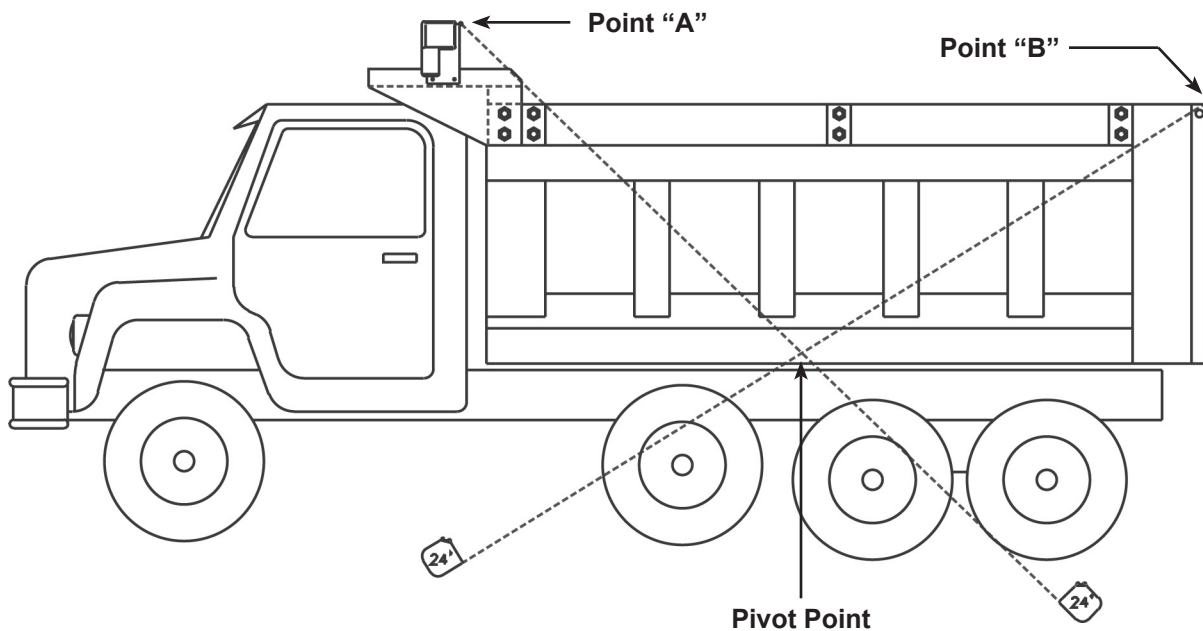
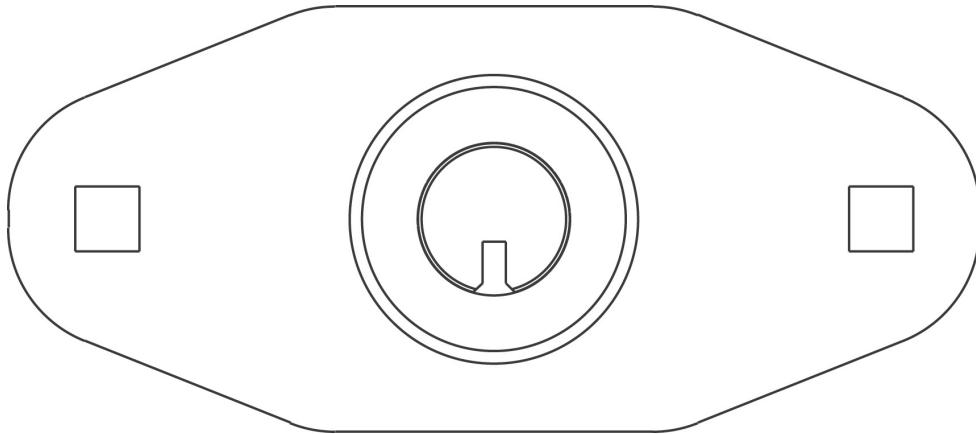

Figure 1
Figure 2
- 1) To find the pivot point, pull one tape measure from point "A" and a separate tape measure from point "B". Next cross the tape measures at the bottom-middle of the truck body where the two measurements are equal - mark the spot beneath where they cross. This is your pivot point. (See Figure 1 below)
- 4) Weld or bolt the pivot mounts to the box using the included 1/2" bolts, flat washers, and lock nuts (the head of the bolt must be on the outside, and the washer and nut on the inside). See Figure 2 for proper orientation of the pivot mount (Fig. 1). **CAUTION:** Failure to comply with the above instructions could cause severe damage to the system.